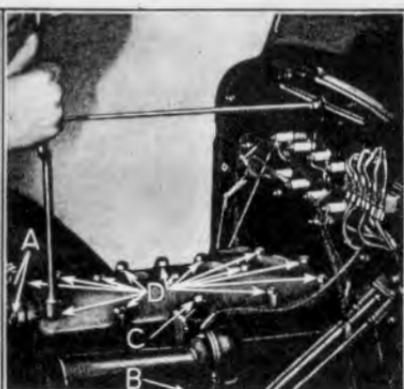

Fig. 218
- 365 Run out the two cylinder head outlet connection screws (See "A" Fig. 218). Remove horn by running out cylinder inlet connection screw "B" and cylinder head bolt "C". Run out the remaining 14 cylinder head bolts "D" from cylinder block and lift off cylinder head and gasket.
- 374 Install horn by running in the two bolts which hold horn to cylinder inlet connection and cylinder head (See "B" and "C" Fig. 218).
- 375 Insert cylinder head outlet connection gasket between cylinder head and outlet connection and run in the two screws which hold outlet connection to cylinder head (See "A" Fig. 218)